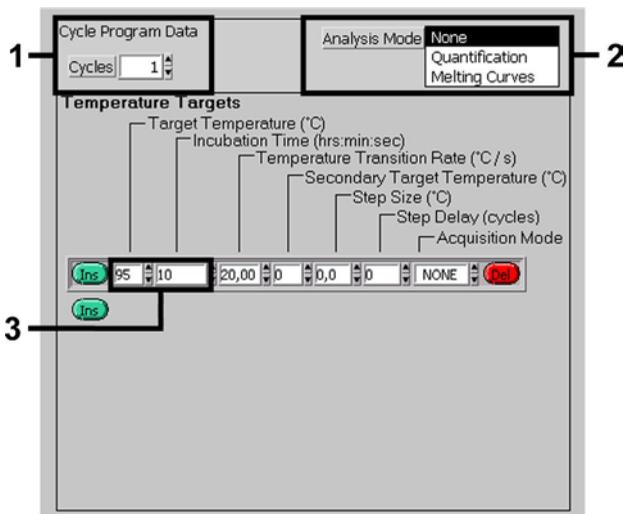

Fig. 4: Initial Activation of the Hot Start Enzyme.
- B. Initial Activation of the Hot Start Enzyme Fig. 4